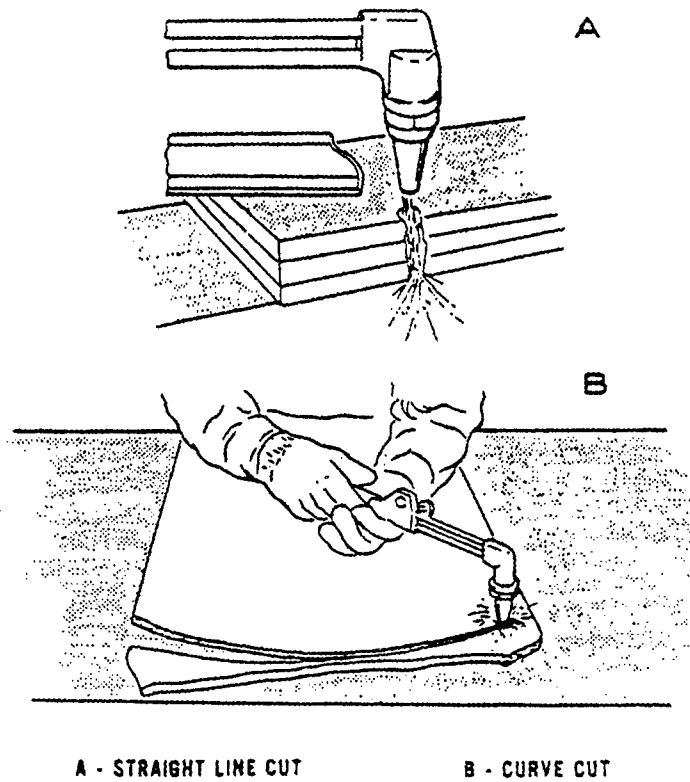

Fig. 3-13 Cutting with a torch
- (1) In most cases cuts are started at the edge of the piece. The torch is held lightly but steadily with one hand supporting it a few inches back of the cutting head. The other hand is on the handle, capable of operating the cutting flow trigger or level. Hold the torch so that the ends of the preheating flame cones are about 1/16-inch above the surface of the material. When a spot of metal at the top edge has been heated to bright red, press the trigger or lever controlling the cutting oxygen flow and begin cutting (See **Figure 3-13.**)
- (2) The torch must be held at the proper height above the work. It is then advanced slowly along the line of cut, making sure that the slag or oxide flows freely and cleanly through the metal. If cutting a metal other than low carbon steel, a different cutting pattern may be required. If the torch is moved too fast, the advancing metal will not have time to preheat properly, and will not flow. The torch must be moved just fast enough to allow oxidation to take place through the material as the cut progresses. The operator should look down into the cut as it progresses and watch the drag, or amount which the cut curves backward in a direction opposite of the travel. If the torch head wavers from side to side, a wider kerf will be made, the speed will be reduced, and oxygen consumption increased. If the